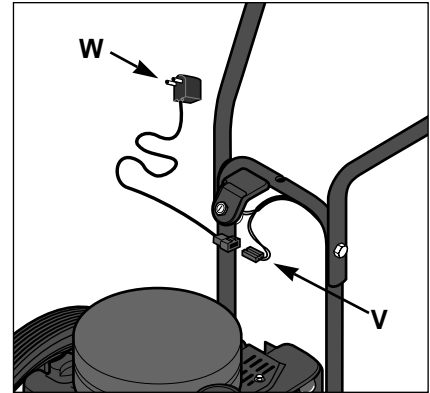

Figure 2-5
- B. To charge the battery, the battery charger shipped to you must first be connected to the wire harness at location "V" (Fig. 2-5). Then plug the charger box (W, Fig. 2-5) into a grounded 120V wall outlet.
- C. Initially charge battery for 24 hours before using electric starter. After charging, unplug the charger from the wall outlet first, then disconnect the wire harness (V, Fig. 2-5). (Prior to and after removing machine from winter storage, also charge battery for 24 hours.)